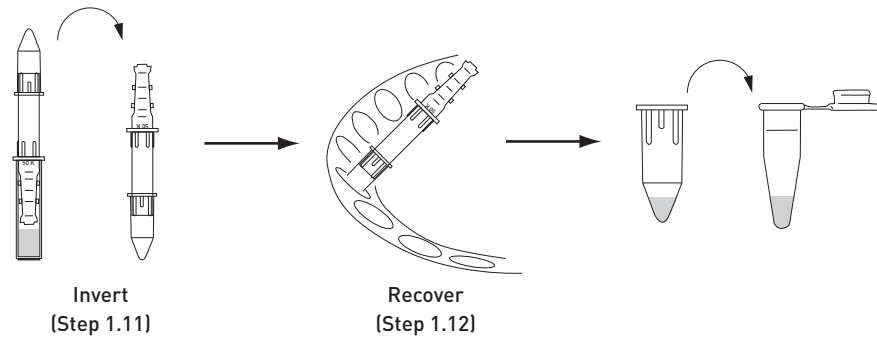

Figure 3 Collect concentrated antibody in preparation buffer.
1.11 Invert the small antibody concentrator (Component B) into the collection tube as shown in Figure 3.